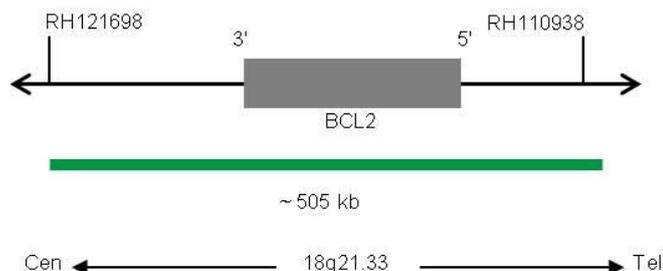

Fig. 1: SPEC BCL2 Probe map (not to scale)
- ZyGreen (excitation 503 nm/emission 528 nm) labeled polynucleotides (~10 ng/μl), which target sequences mapping in 18q21.33* (chr18:60,610,473-61,116,910) harboring the BCL2 gene region (see Fig. 1).